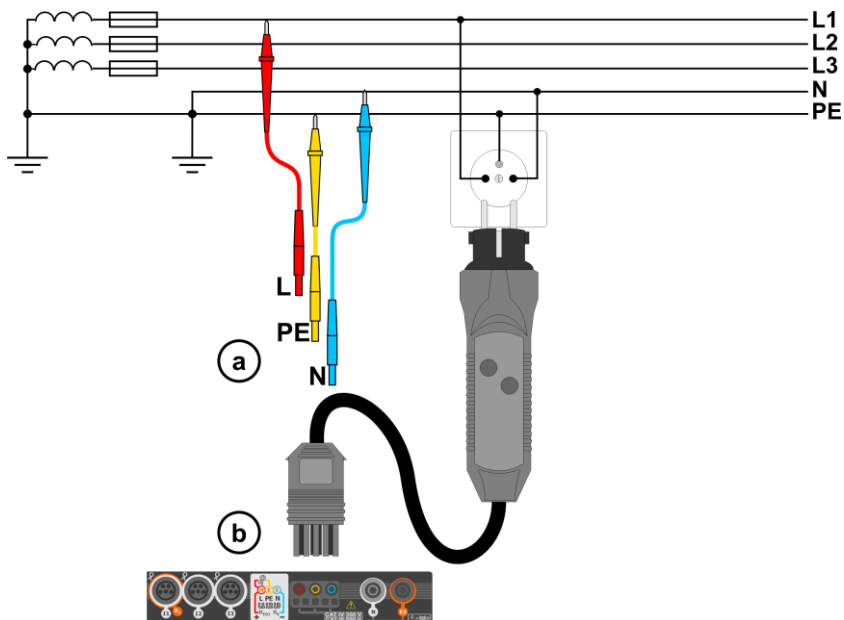

Fig. 3.1 Measurement in L-PE circuit
① Connect test leads according to **Fig. 3.1** or **Fig. 3.2**.